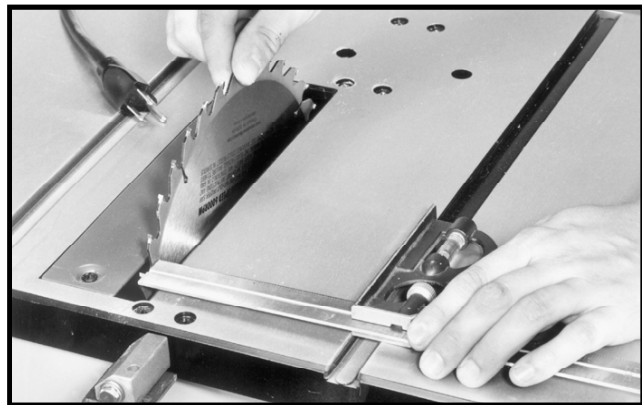

Fig. 42
5. Rotate the blade and check the same marked blade tooth at the rear of the saw table in the same manner, as shown in Fig. 42.